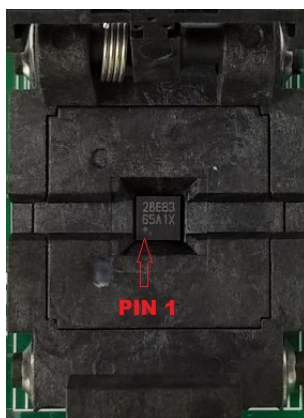

Figure 9. Orientation of the DS28E83 and DS2476 in the Burn-In Socket
- a) (Optional—Perform only if using the coprocessor): Open the 1st socket and insert a DS2476 into one of the cavities, as shown in Figure 9. **Note:** The plus (+) on the package must be on the opposite side of the marker in the socket.
- b) Open the 2nd socket and insert a DS28E83 into one of the cavities, per the same orientation shown in Figure 9.